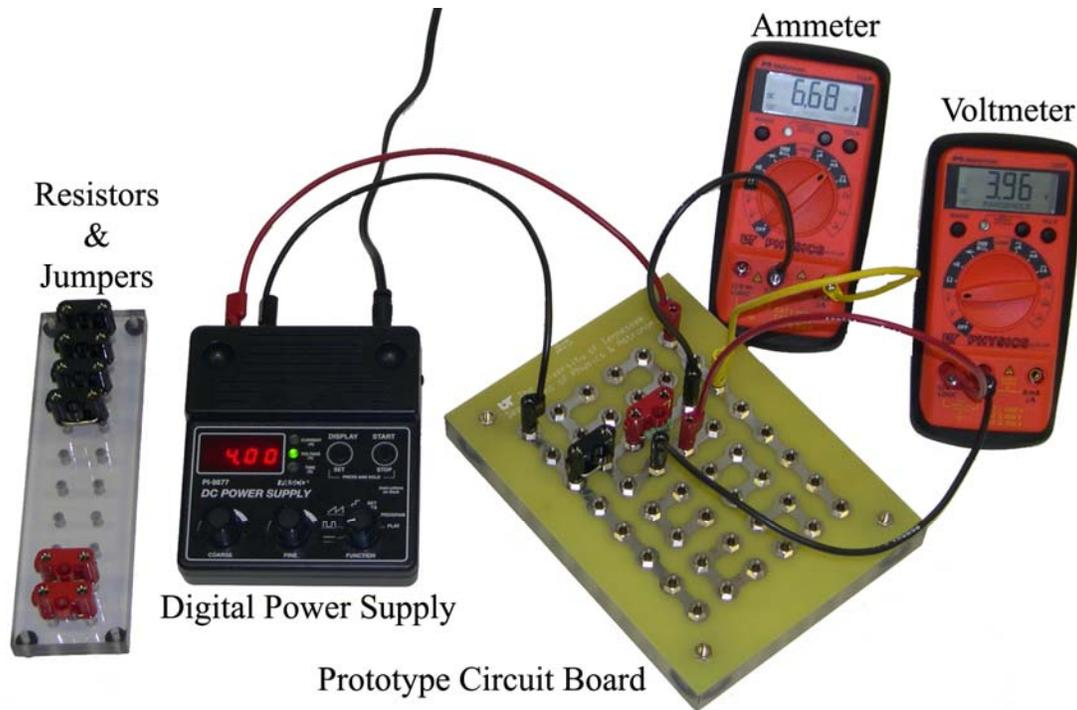
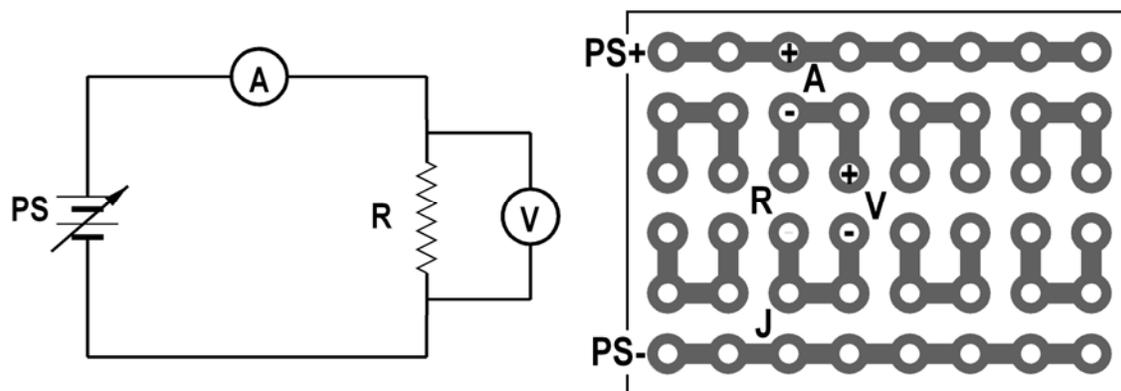

Figure 4. Apparatus for Ohm's Law experiment to study resistors in series and parallel.
Figure 6. Schematic diagram and construction aids for wiring circuit to measure current and voltage for a single resistor.
The apparatus is shown in Figure 4 and consists of: (1) 2 Metorman Model 15XP digital multimeters, DMMs, (2) a prototype circuit board with banana jacks for wiring the circuits, (3) a Pasco model PI-9877 power supply, (4) stackable double banana plugs with resistors or shorting bars (jumper wires) mounted, and (5) assorted leads with banana plugs. These components have been chosen to minimize problems with improper use, while at the same time providing good results for analysis and learning the concepts.
- Wire the power supply, ammeter, voltmeter, and resistor #1 according to the following schematic diagram using the prototype circuit board and components as shown in Figures 4 and 6 . The Figure 6 shows the placement of the ammeter, A, the voltmeter, V, the resistor R₁, and the jumper wire J. Figure 4 is a photo of the setup.